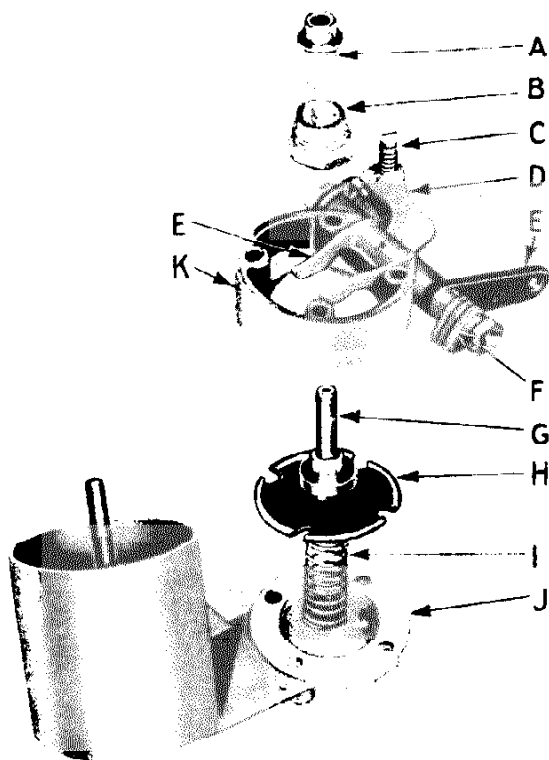

Figure E20
REMOVAL AND REPLACEMENT JET NEEDLES Fig. E20
5. CENTRING THE PETROL JET Fig. E20